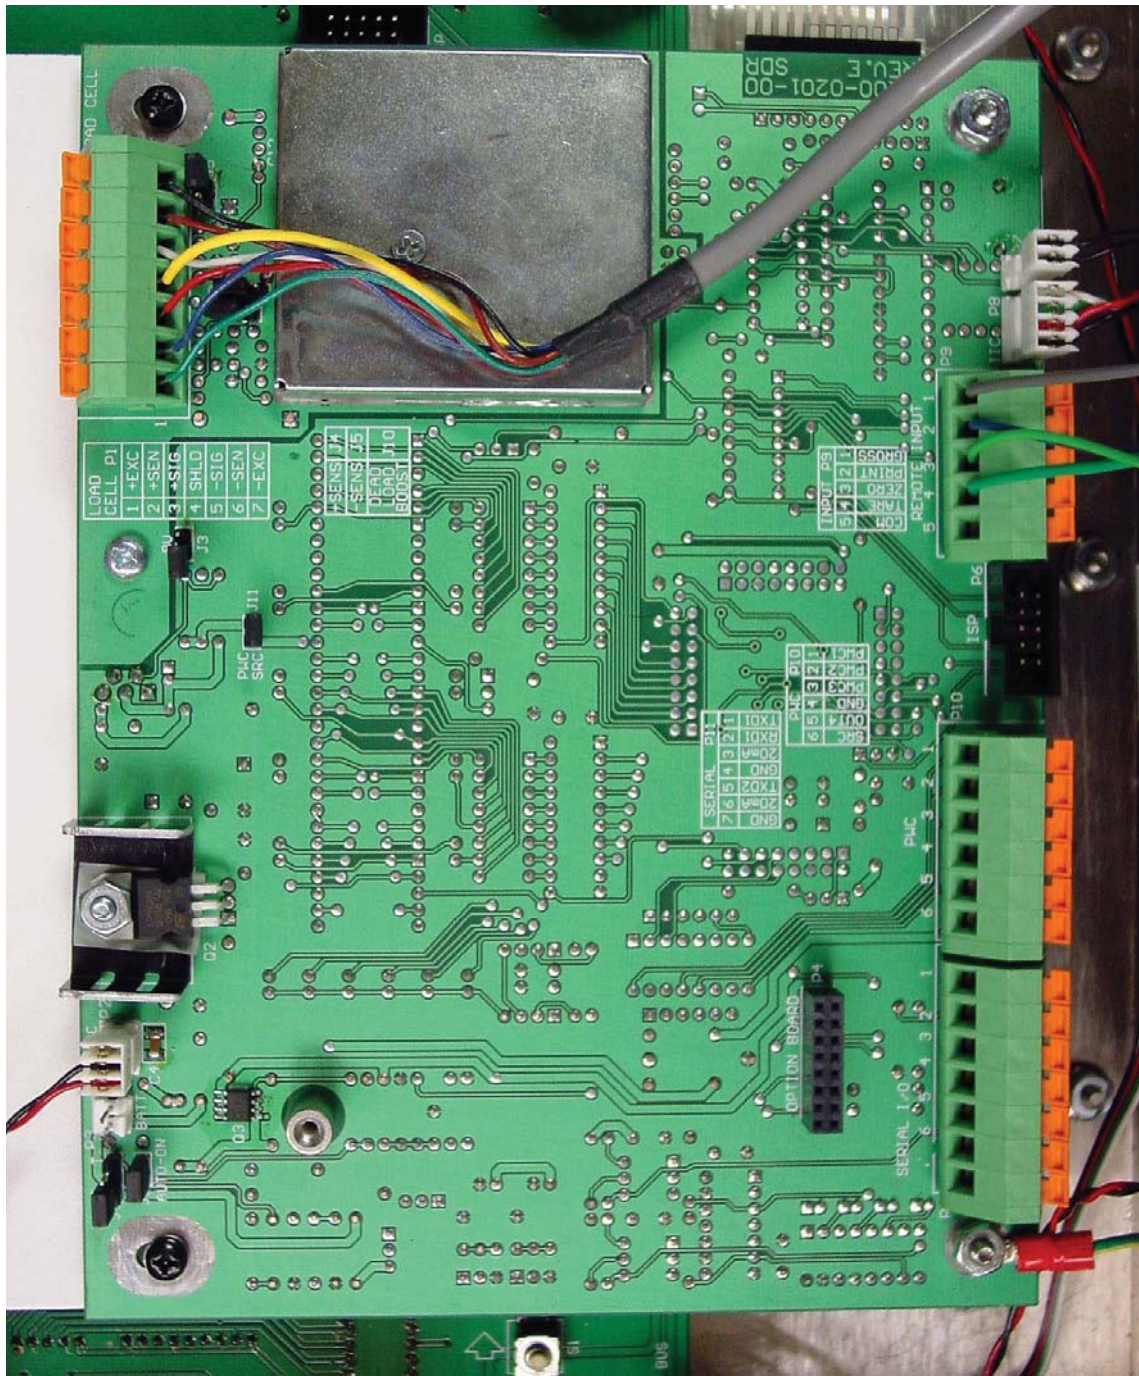

Figure No. 9
7. Referring to the table below (or on the circuit board) for terminal connections, connect each of the wires to terminal block P1. Refer to Figure No. 9 for terminal block location.
6. Referring to the table on the previous page (or on the circuit board) for terminal connections, connect each of the wires to terminal block P7. Refer to Figure No. 9 for terminal block location.
6. Connect each of the wires to the Serial I/O terminal block (P11) referring to Figure No. 9 for terminal block locations.
Included with the I/O are 4 programmable inputs that may be used to remotely (up to 100 feet) initiate various functions within the indicator. These inputs are accessed via a terminal block (P9) on the back of the PC board (see Figure No. 9). The 4 inputs are defined as follows: